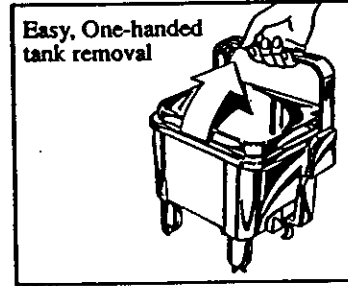

Fig. 5
- One handed recovery tank removal. Fig. 5